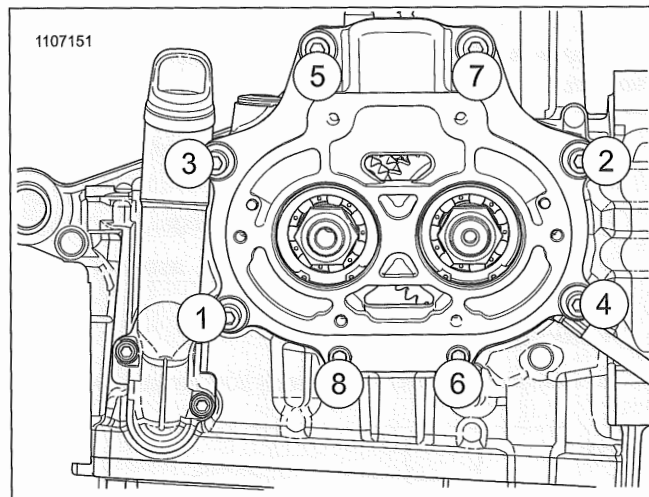

Figure 5-43. Transmission Bearing Housing Tightening Sequence
- Install screws (1).
- See Figure 5-43. Tighten in sequence to 22–25 ft-lbs (29.8–33.9 N·m).